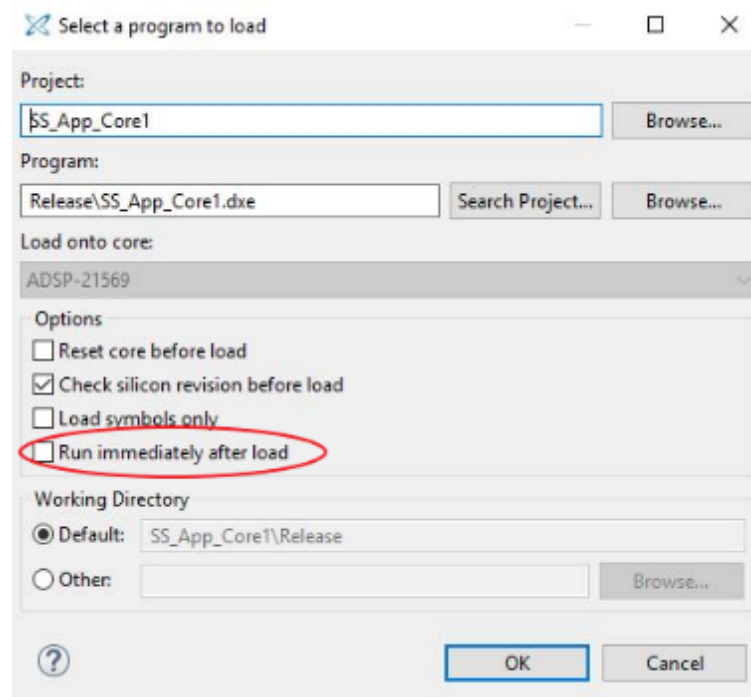

Figure 21: Select a program to load window
- Double click on 'SS_App_Core1.dxe' of Core 1 and uncheck 'Run immediately after load' option as shown in Figure 21.